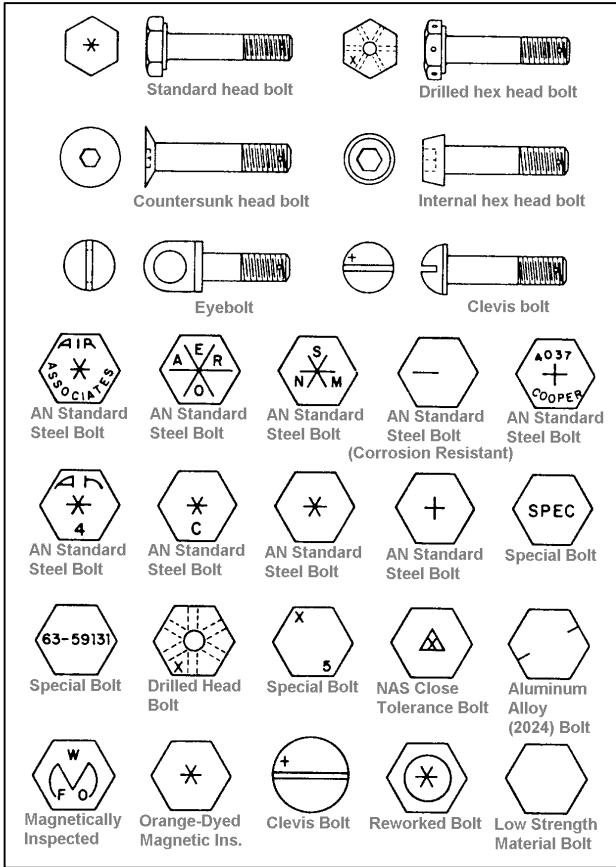

FIGURE 7-1. Typical aircraft bolt markings.
b. Special-purpose bolts include high-strength, low-strength, and close-tolerance types. These bolts are normally inspected by magnetic particle inspection methods. Typical markings include “SPEC” (usually heat-treated for strength and durability), and an aircraft manufacturer’s part number stamped on the head. Bolts with no markings are low strength. Close-tolerance NAS bolts are marked with either a raised or recessed triangle. The material markings for NAS bolts are the same as for AN bolts, except they may be either raised or recessed. Bolts requiring non-destructive inspection (NDI) by magnetic particle inspection are identified by means of colored lacquer, or head markings of a distinctive type. (See figure 7-1.)